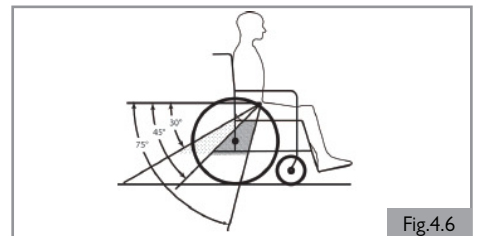

Fig.4.6
18. A steeper (greater) angle within the preferred zone is desirable closer to, but not exceeding, 75 degrees (Fig. 4.6).